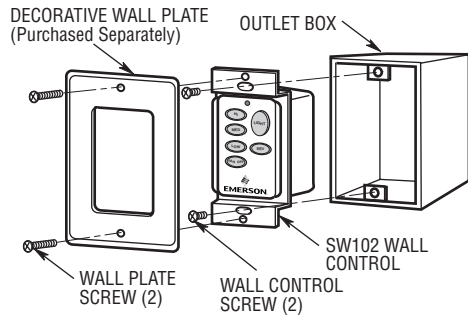

Figure 3
- 3. Install the wall control onto the outlet box using the supplied screws (Figure 3).
- 4. Install a decorator wall plate (purchased separately) using the two screws provided (Figure 3).